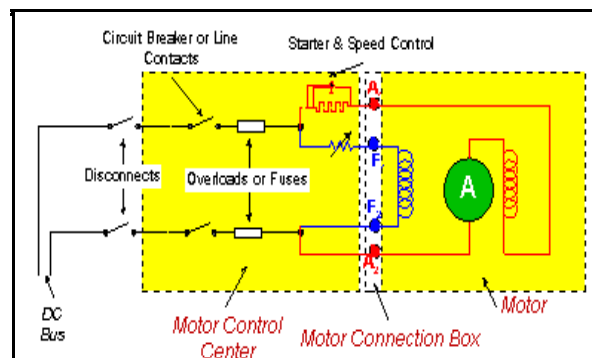

Figure 5-49: Asset Circuit Connections
3. Connect the MCE test leads to the circuit, in the same manner each time, as referenced in Table 5-8 and shown in Figure 5-49. This ensures that the test data is trendable/repeatable.